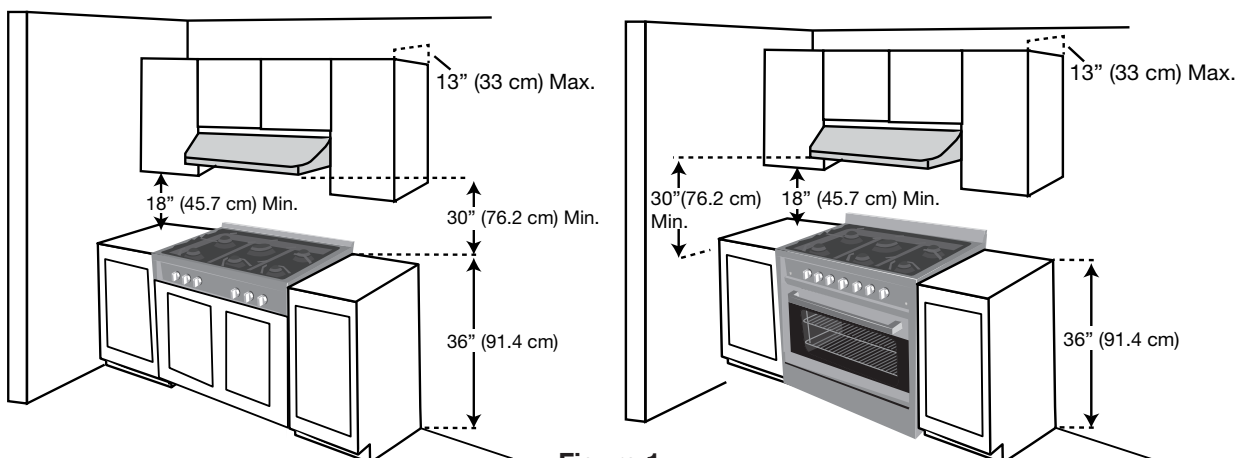

Figure 1
- Working areas adjacent to the appliance should have 18" minimum clearance between countertop and cabinet bottom (see Figure 1).